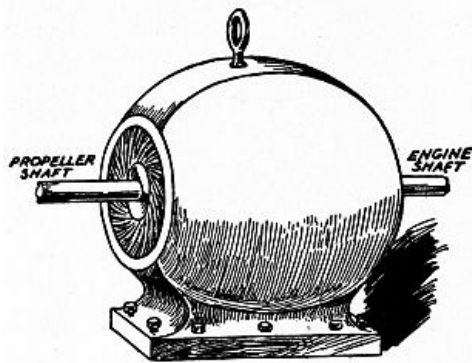

FIG. 34. A SUBMARINE DYNAMO MOTOR.
Three devices must be used for the undersea electric power plant, namely, (1) the *dynamo*, which generates the electric current; (2) the *storage battery*, which is charged by the current generated by the dynamo, and (3) the *motor*, which develops power when a current from the storage battery is made to flow through it. The diagram shown in Fig. 34 will make the electric connections clear.
About the Dynamo.—The *dynamo*^[21] (see Fig. 34) is connected to the crankshaft of the engine and is driven by it. It changes the mechanical motion of the engine into an electric current. This electrical energy must then be stored up so that it can be used later when the craft is submerged and it is wanted. [86]